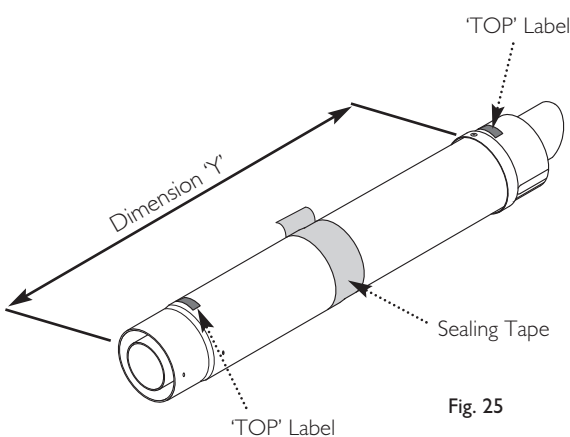

Fig. 25
8. Adjust the two telescopic sections to dimension 'Y' and seal the joint with the tape provided (Fig. 25). Ensure that the labels marked 'TOP' on the Terminal and Connection Assemblies are uppermost.